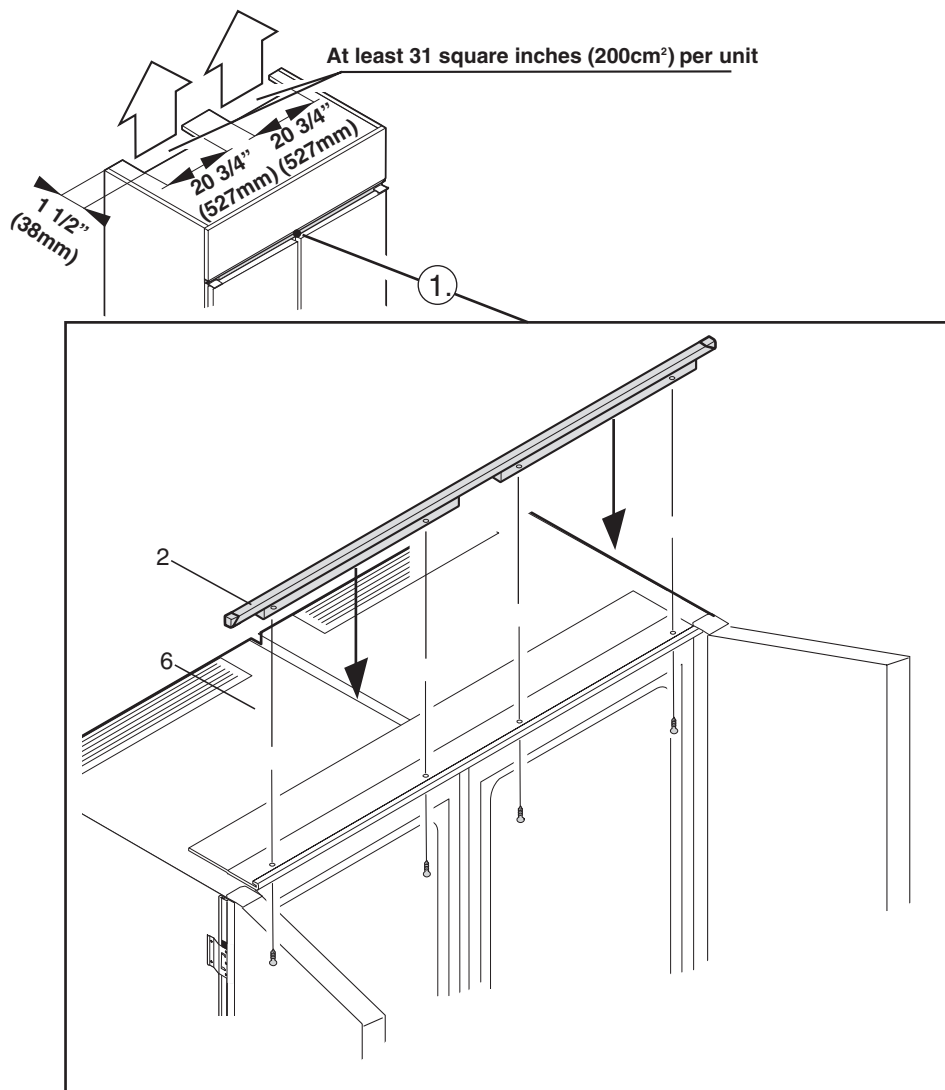

Figure 33
1. For built-in appliances without ventilation grilles and only with installation frame (2), ventilation must take place through the ventilation duct at the rear of the cabinet. Ensure that the ventilation cross-section is at least 31 square inches (200 cm2) per appliance. At least 62 square inches (400 cm2) for side-by-side installation of two appliances. Built-in appliances with an installation frame:
- **Figure 33:** Screw the installation frame (2) to the appliance through the attachment brackets.